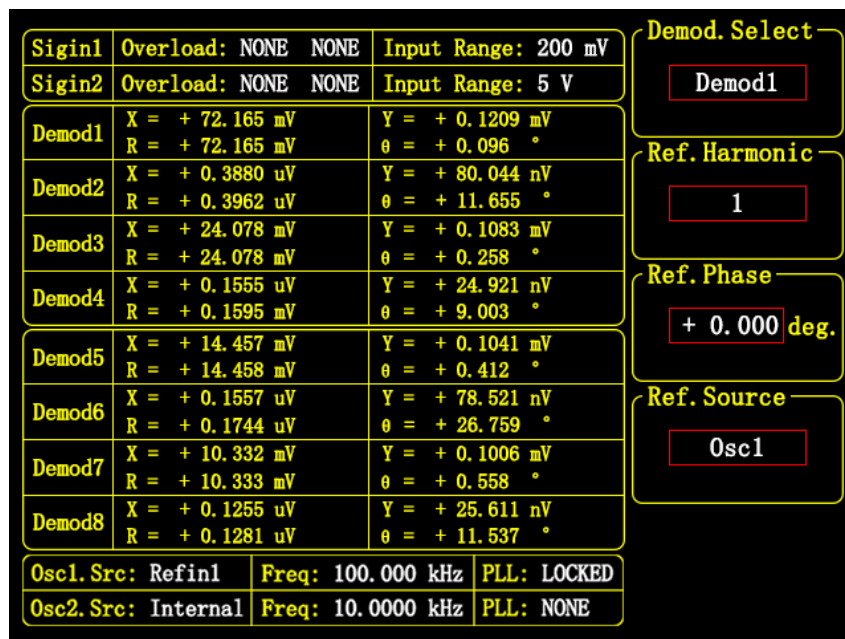

Figure 104. Harmonic Measurement Results of the Square Wave
6. Then, in the [DISPLAY] submenu, press "Soft key 2" to set <Display Mode> to <Full>, as shown in Figure 104, so that all fundamental and harmonic measurement results are displayed.
Using the calculation method described above, the measurement results shown in Figure 104 indicate that the measured values are consistent with the theoretical values.